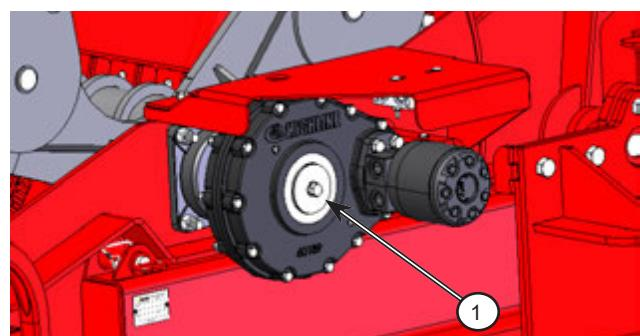

Figure 4.25: Check the gearbox oil
10. Check the oil level in the gearbox (1) and top up if required; see \*Figure 4.25\*.